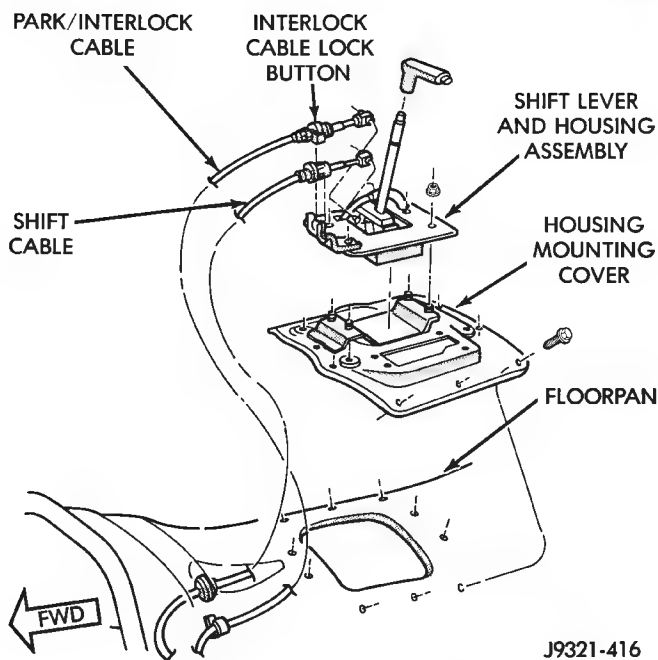

Fig. 3 Shift Cable (XJ)
- (1) Shift transmission into Park.
- (2) Raise vehicle.
- (3) Release cable adjuster clamp to unlock cable (Figs. 3 and 4). Clamp is at transmission end of cable.
- (4) Unsnap cable from transmission cable bracket.
- (5) Move transmission shift lever fully rearward to Park detent. Lever is on manual valve shaft at driver side of case.
- (6) Verify positive engagement of park lock by attempting to rotate propeller shaft. Shaft will not rotate when park lock is engaged.
- (7) Snap cable into cable bracket.
- (8) Lock shift cable by pressing cable adjuster clamp down until it snaps into place.
- (9) Check engine starting. Engine should start only in Park and Neutral.
- (10) Lower vehicle.